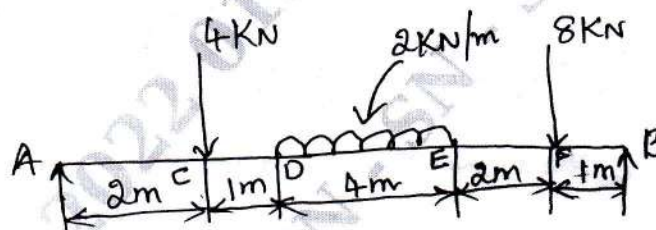

Fig Q6(b)
- b. Draw shear force and bending moment diagram for the beam shown in Fig Q6(b) making values at salient point. (15 Marks)